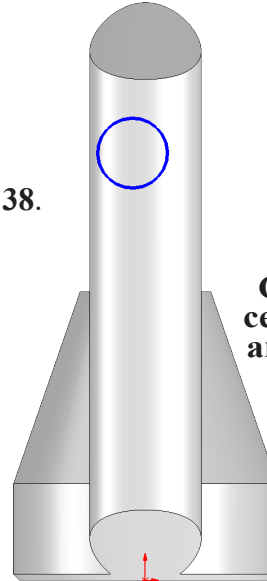

**Fig. 37**
Step 2. Click **Plane1**  in the Feature Manager and click **Sketch**  on the context toolbar, **Fig. 37**.